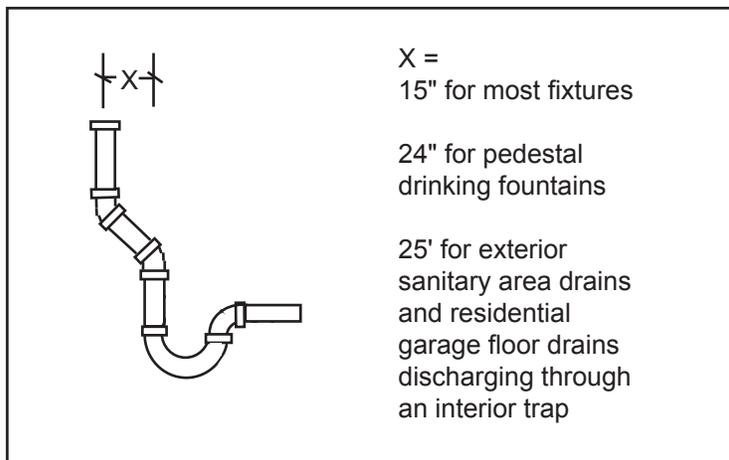

Figure 25. Horizontal distance restrictions.
- The distance between the vertical centerline of an exterior sanitary area drain or residential garage floor drain discharging through an interior trap is 25 feet. See figure 25.